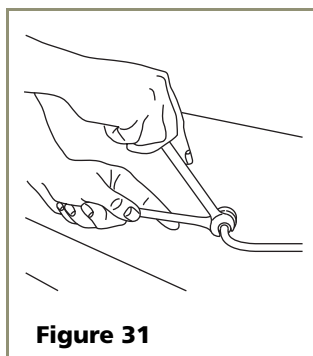

Figure 31
2. Locate the compression fitting and ferrule packed with the unit. Slide the compression fitting and ferrule over the 1/4-inch OD water supply line. Do not use thread sealing compound or tape. Using two wrenches, tighten the compression fitting on the supply line (see **Figure 31**).